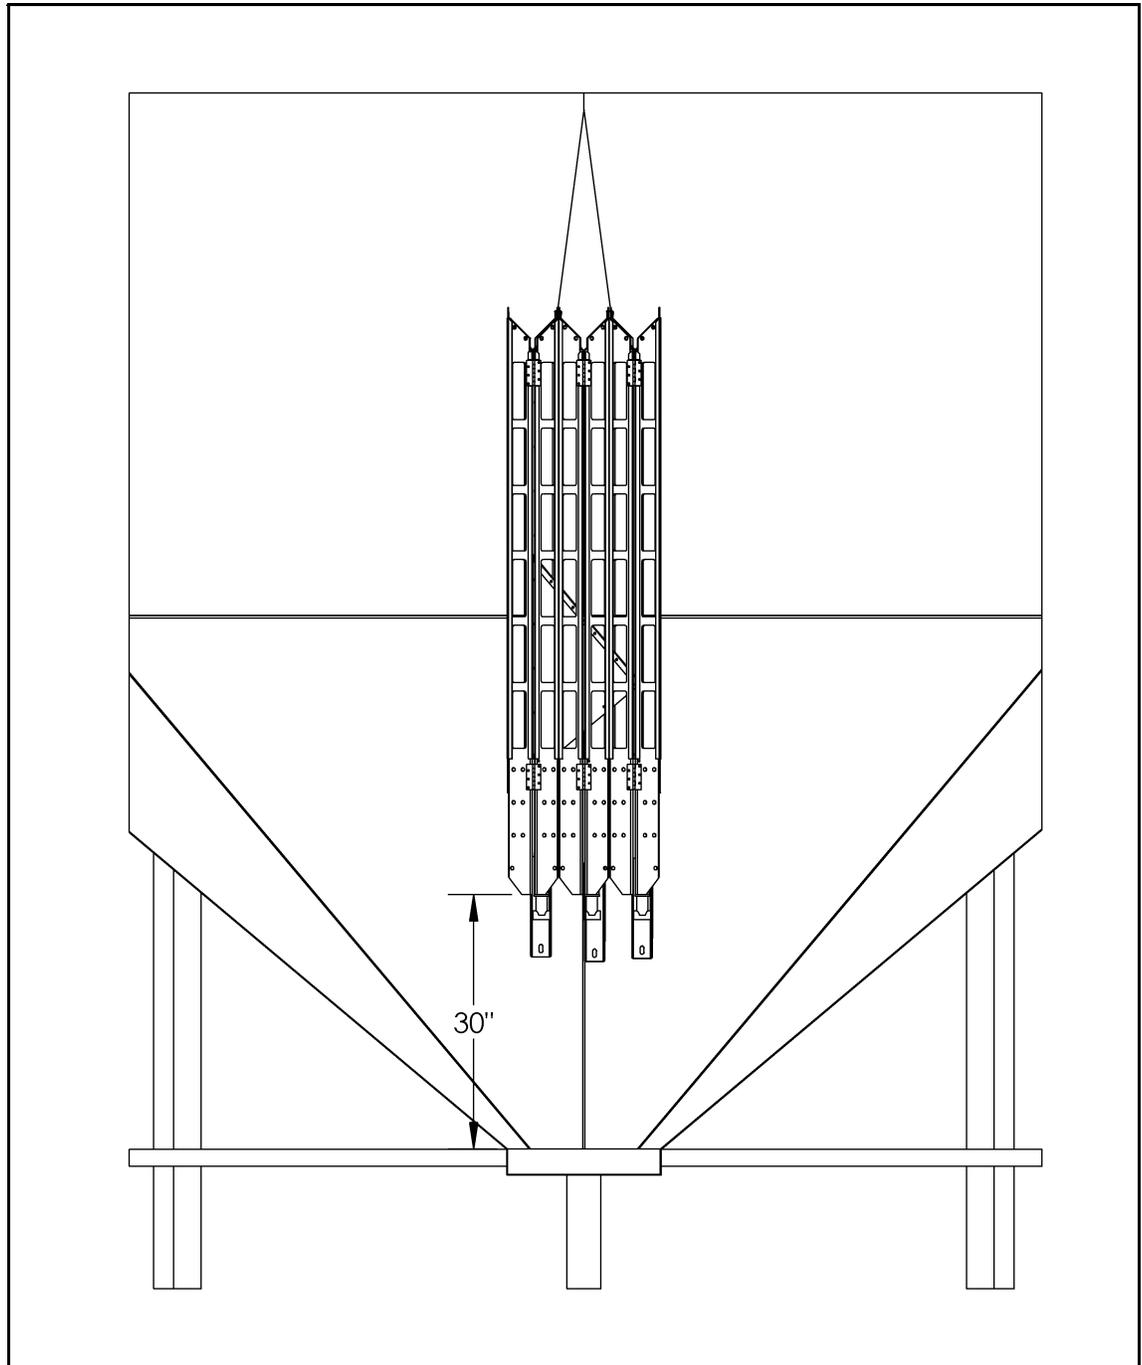

Figure 3.6
3. Winch rocket into bin with lifting device until rocket is suspended 30” to 36” above the bottom of the hopper cone. See Figure 3.6.